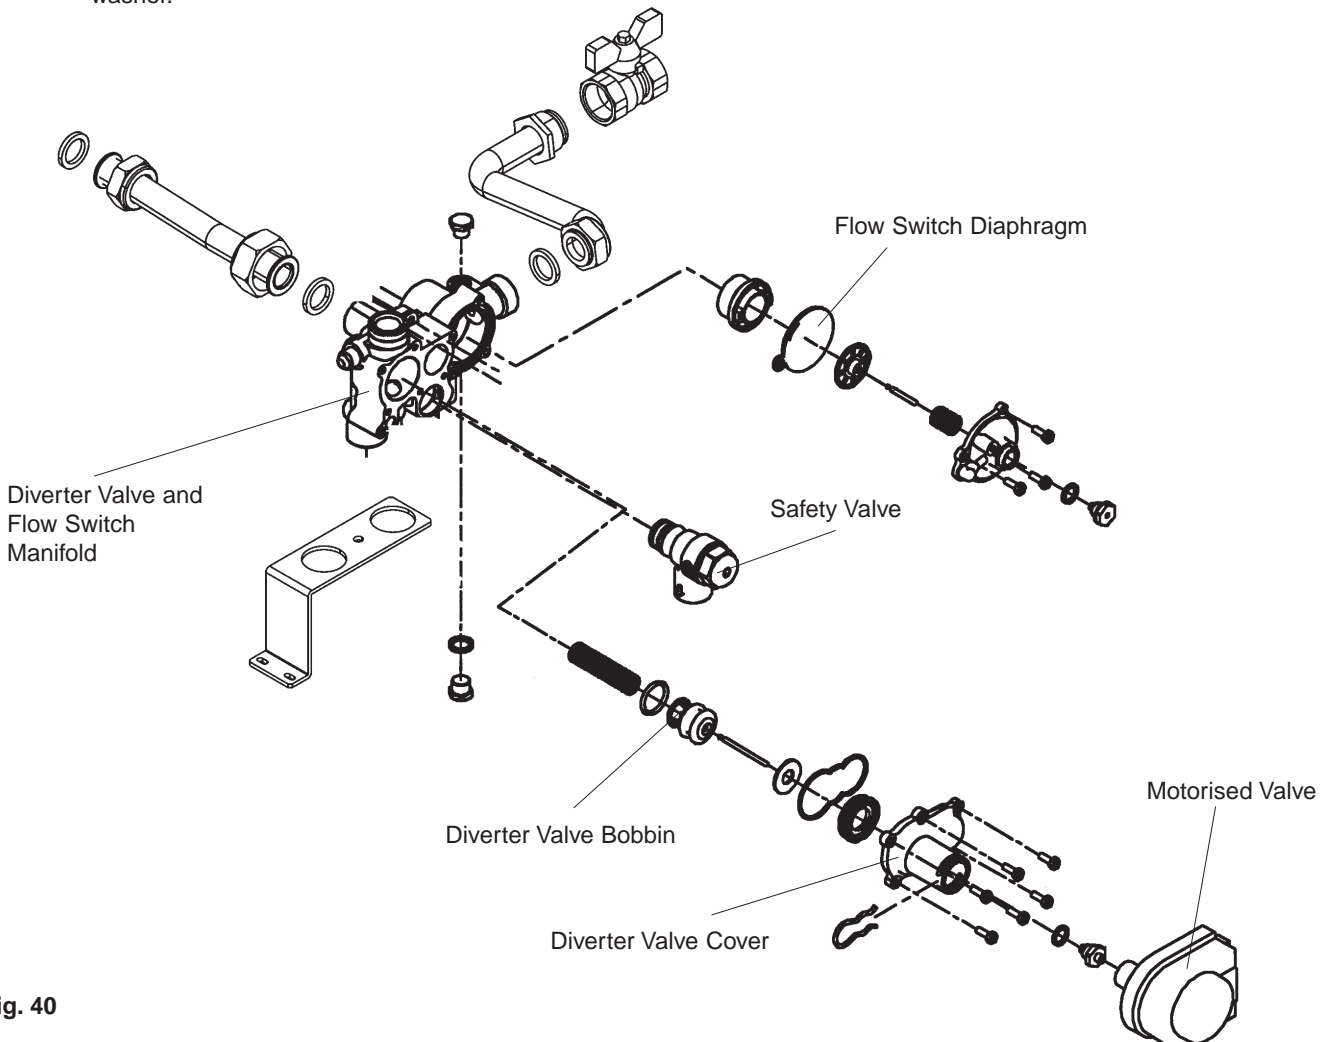

Fig. 40
- 8.18.10 Withdraw hydraulic group from appliance. See Fig. 40 for further disassembly.
Refer to fig. 40
- 8.21.6** See Fig. 40 for further disassembly and location of components.